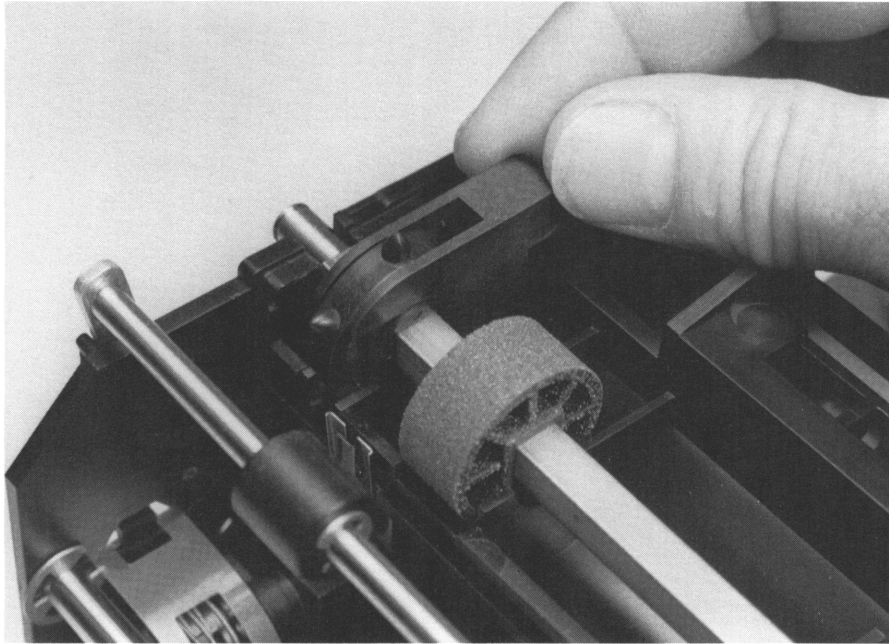

Figure 3-7, Pin Wheel Guide Placement
7. Place the guides over each pin wheel, and set the left guide into its slotted position on the platen frame. Seat the guides firmly into place. See Figure 3-7.